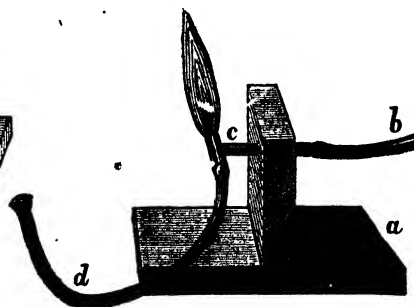

FIG. 5.
**GAS BLOWPIPE.**—A still more convenient arrangement is shown in Fig. 5. It can be made at a very trifling expense, and gives a most powerful and manageable flame. The tube *b* conveys the gas to the T-shaped brass tube *c*, the longer limb of which fits tightly in a hole in the upright wooden support. This brass tube is made in the manner shown in Section 1, Fig. 6. The limb which passes through the support may be about six inches long, and the shorter limb about three inches. About half an inch of the short limb rises